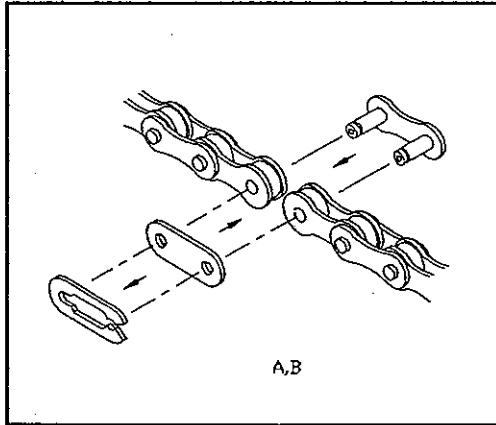

Fig. 14
2. Connect the chain with connector, washer, and holder (see Fig. 14).